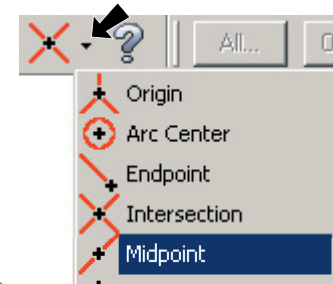

Fig. 36
Step 2. Click the down arrow in the Auto Cursor ribbon bar and click **Midpoint**  , Fig. 36.